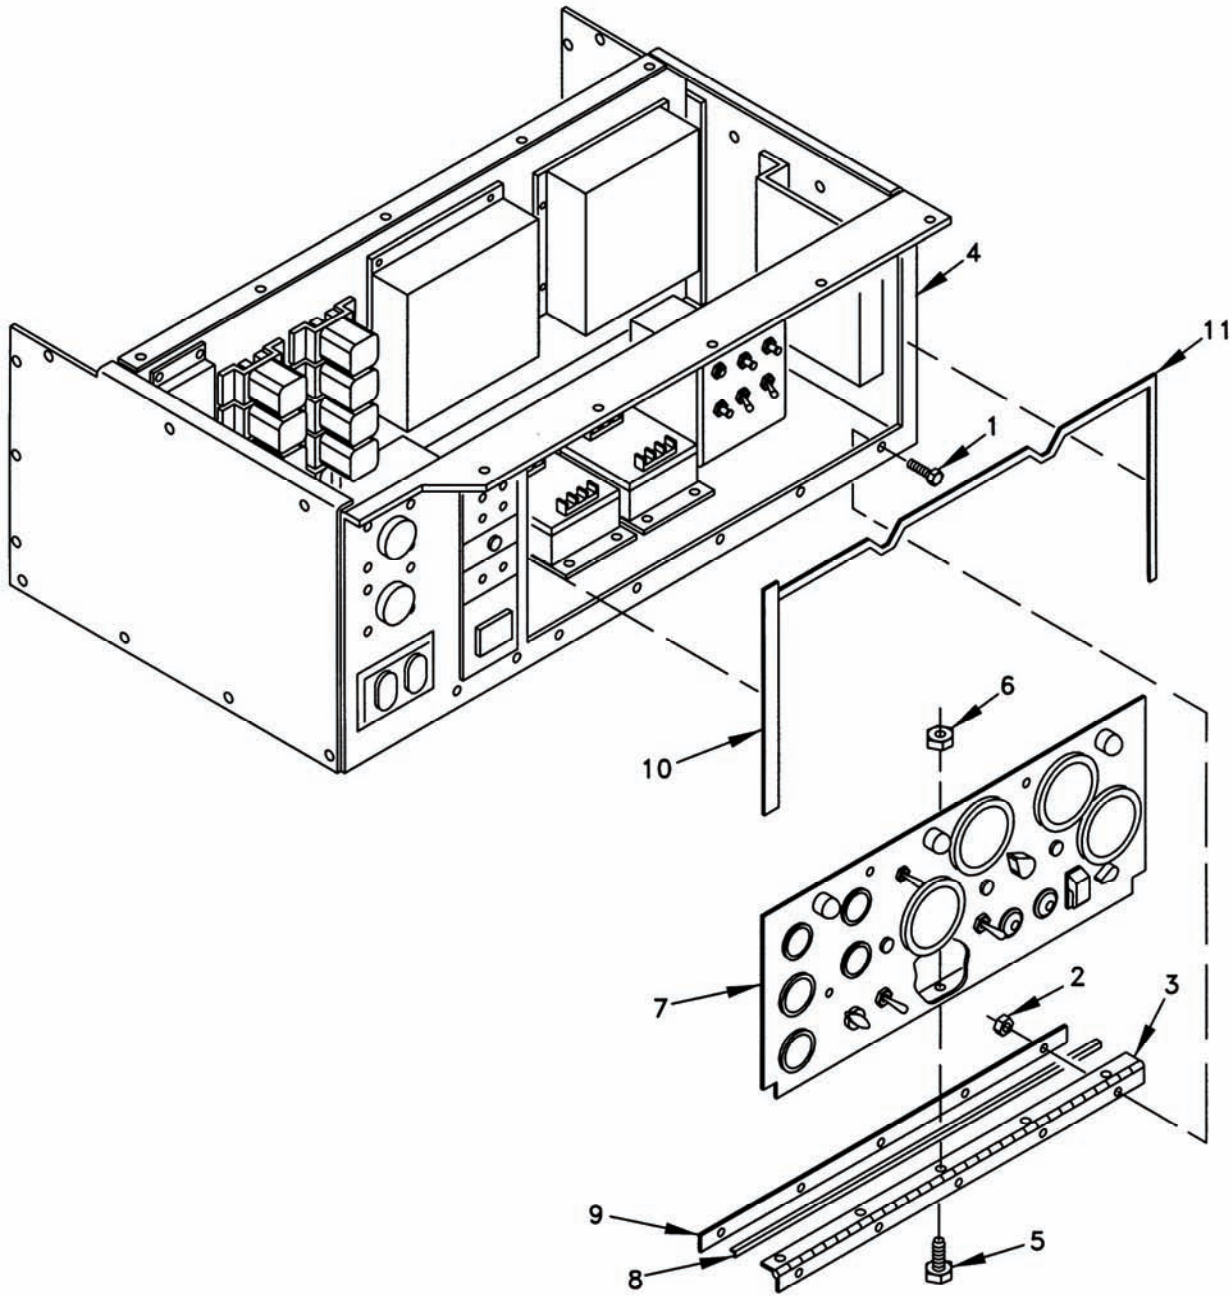

Figure 5-44.1. Control Box Shielding.
- b. Remove bolts (1, Figure 5-44.1) and nuts (2) securing hinge (3) to control panel frame (4).
- c. Remove bolts (5), nuts (6), and hinge (3) from control panel (7).